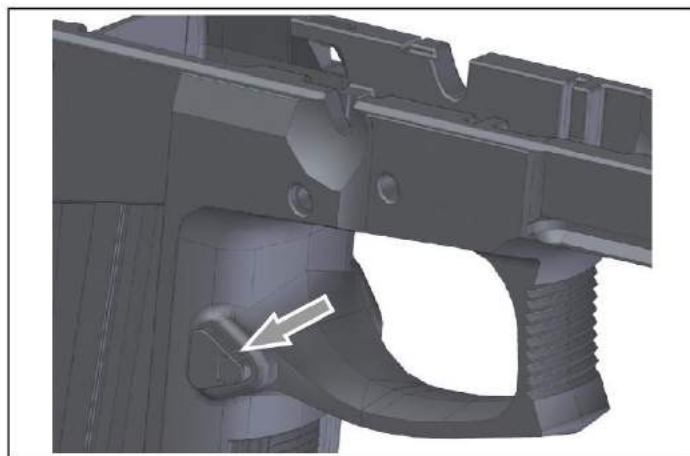

Fig. 6, Pushing in the magazine catch (illustration without trigger)
1. Push in magazine catch **24** until it projects slightly on the opposite side (see Fig. 6).